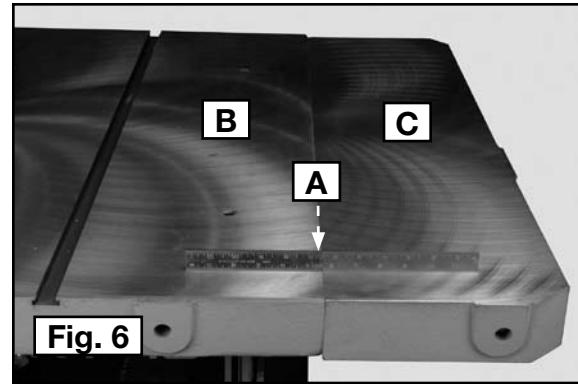

Fig. 6
Place a straight-edge (A) Fig. 6 on the saw (B) and the extension table (C) over the first bolt to check the level. When the two are level, tighten the bolt. Do the same with the far bolt. Tighten all hardware securely.